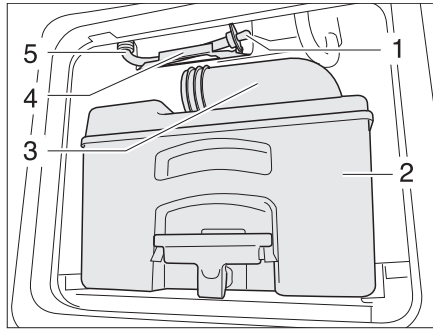

Fig. 362 Toilet water tank drain hose
- Empty the cassette (Fig. 362,2) at a disposal station authorized for this purpose and clean it.
- Leave the drainage neck (Fig. 362,3) open.
- Remove the drain hose (Fig. 362,5) from the holder (Fig. 362,4).
- Remove the drain plug (Fig. 362,1) and let the residual water run out.